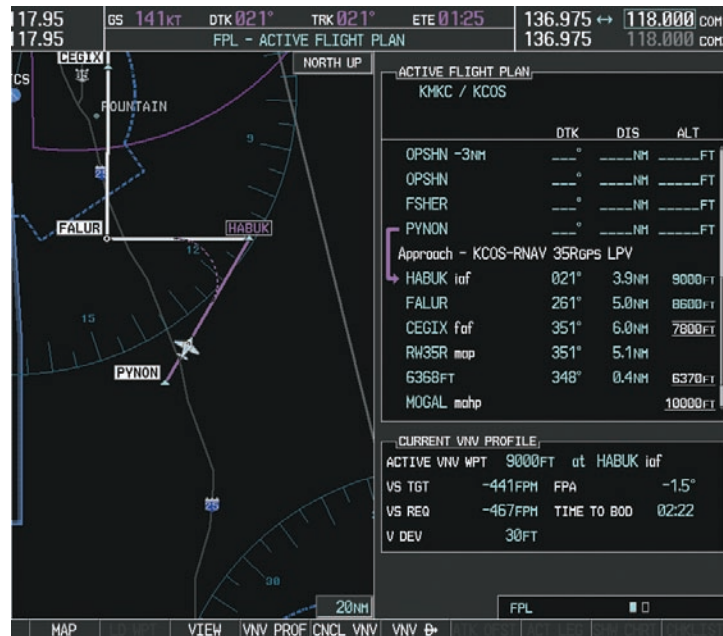

Figure 5-134 Approach is Now Active
- 21) Upon passing PYNON the approach procedure automatically becomes active. The approach may be activated at any point to proceed directly to the IAF. In this example, the aircraft has progressed through the final waypoint of the arrival and the flight plan has automatically sequenced to the IAF as the active leg, activating the approach procedure (see Figure 5-134).